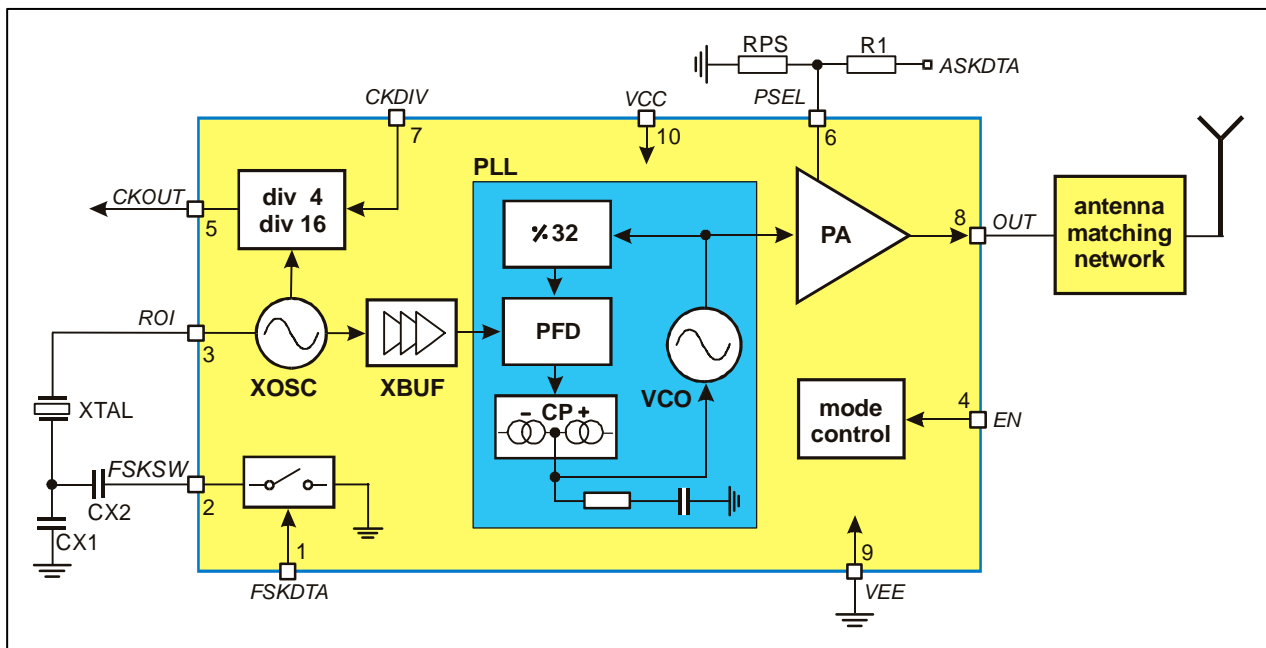

Fig. 1: Block diagram with external components
As depicted in Fig.1, the TH72006 transmitter consists of a fully integrated voltage-controlled oscillator (VCO), a divide-by-32 divider (div32), a phase-frequency detector (PFD) and a charge pump (CP). An internal loop filter determines the dynamic behavior of the PLL and suppresses reference spurious signals. A Colpitts crystal oscillator (XOSC) is used as the reference oscillator of a phase-locked loop (PLL) synthesizer. The VCO's output signal feeds the power amplifier (PA). The RF signal power  $P_{out}$  can be adjusted in four steps from  $P_{out} = -12$  dBm to +10 dBm, either by changing the value of resistor RPS or by varying the voltage  $V_{PS}$  at pin PSEL. The open-collector output (OUT) can be used either to directly drive a loop antenna or to be matched to a 50Ohm load. Bandgap biasing ensures stable operation of the IC at a power supply range of 1.95 V to 5.5 V.